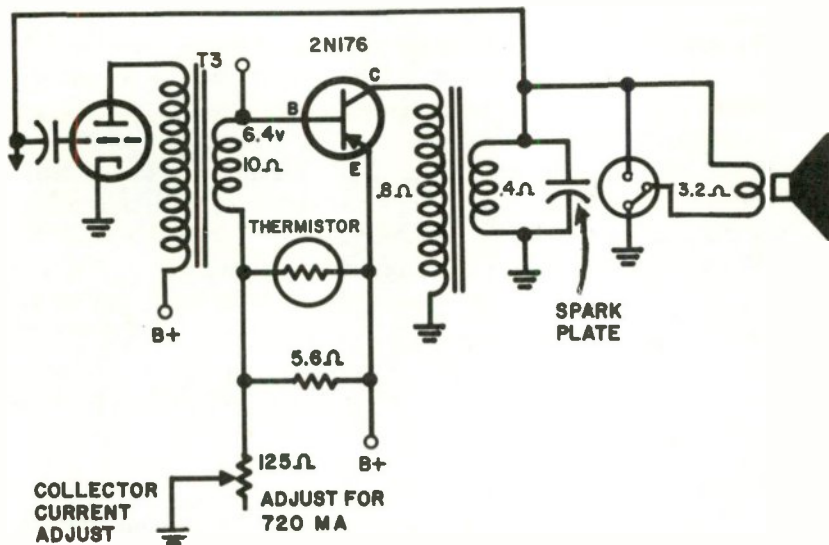

Fig. 414. This single-ended transistor stage has a variable resistor for adjusting the collector current.
The circuit is shown in Fig. 414. We studied this circuit in Chapter 3 but there are some differences between transistor audio output circuits used in auto radios and those in small, personal receivers. Basically, the circuits are the same, but let's examine the changes made for automobile operation.
3. You may find a thermistor connected in the output stage. A thermistor is a temperature-sensitive device. The thermistor is mounted close to the transistor. If the temperature of the transistor goes up, the resistance of the thermistor goes down. In Fig. 414, the thermistor is connected between base and emitter. If the thermistor resistance decreases, so does the base bias. When this happens, collector current decreases.